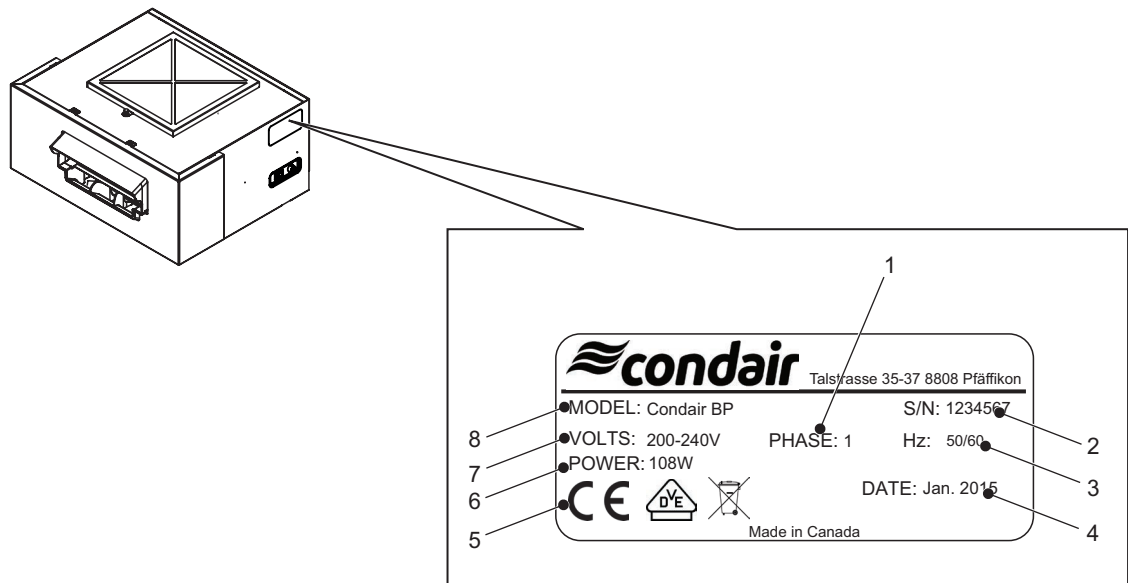

Figure 2: Condair Blower Pack Specification label
- Verify the model type on the specification label to ensure that it is suitable for your installation. Refer to Figure 2 on page 11.
The specification label on the side of the blower pack shows its model type, serial number and other ratings. Refer to Figure 2.
- ☐ The available voltage and phase of the power supply should match the requirements for the blower pack, as indicated on the specification label. Refer to Figure 2 on page 11.